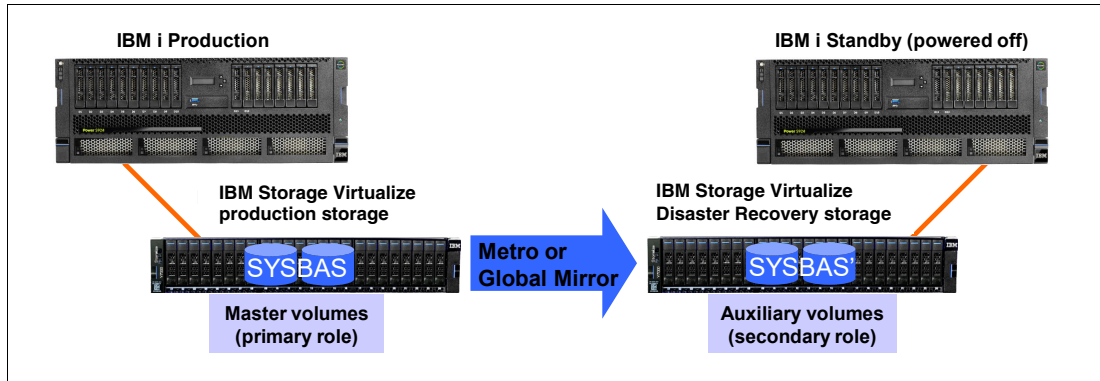

Figure A-11 IBM i full system replication with IBM Storage Virtualize
Full system replication is used for disaster recovery (DR) purposes where an IBM i standby server is used at the DR site, as shown in Figure A-11.